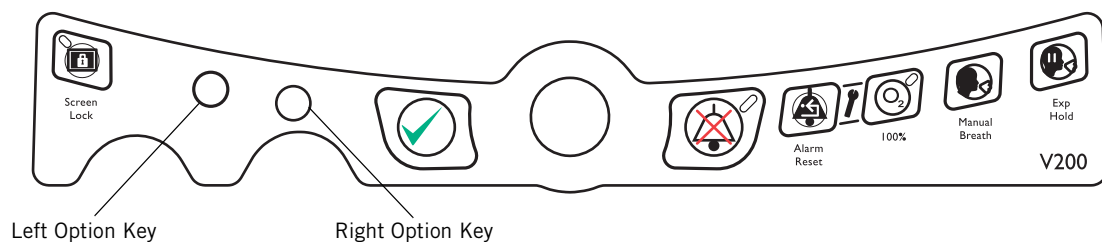
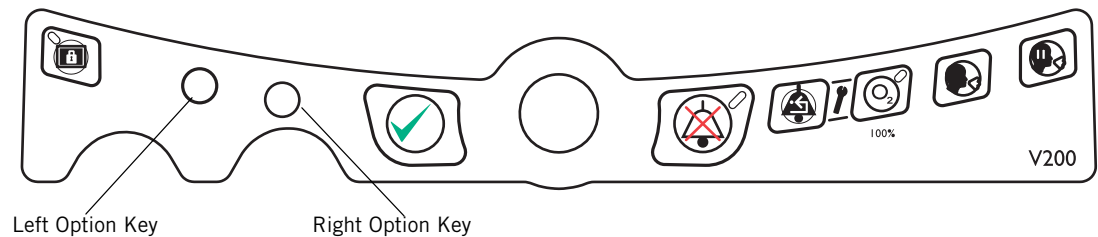

Figure 11-2: Front Panel Keys – Text Version
Figure 11-3: Front Panel Keys — Symbol Version
6. Press the front panel keys as prompted. Refer to Figure 11-2 and Figure 11-3. For a description of the front panel keys, see Table 8-3: “Front Panel Keys”.